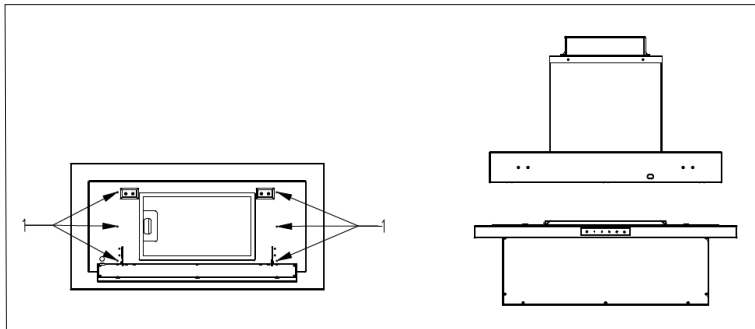

Fig. 4
3. Remove the six screws and remove the bottom of the hood as shown in Figure 4.